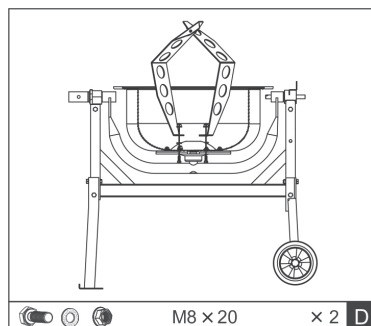

Fig.8
5. Assemble the mixing blades. Place the mixing blades on the bottom of the drum and assemble them using two M8x16 screws and nuts. Use a leather washer between the bottom of the drum and the blades. Tighten the screws only slightly (D), Fig.8.